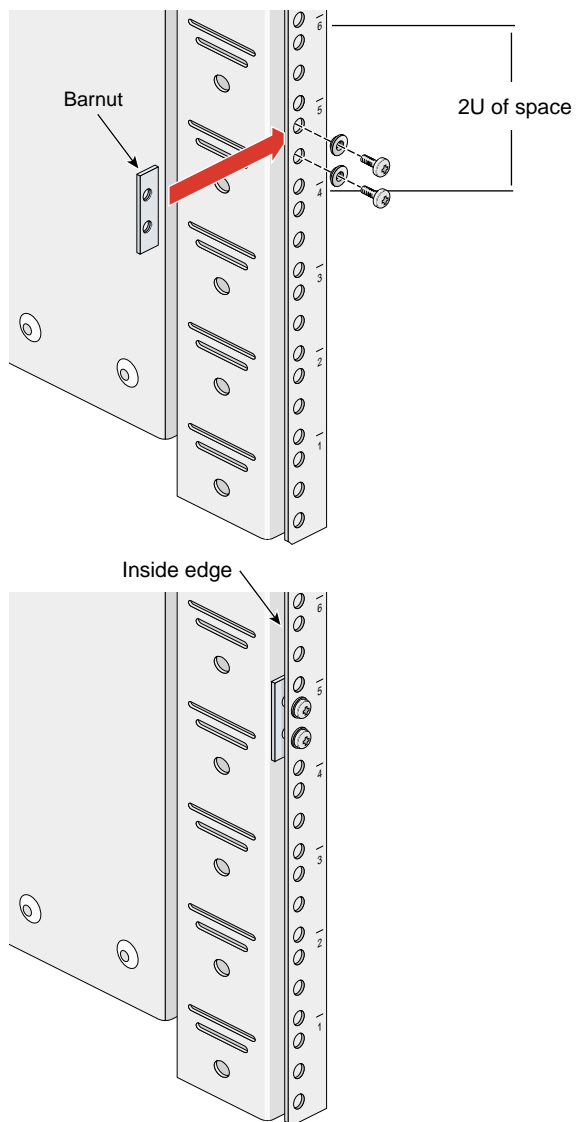

Figure C-10 Placing the Bar Nuts on the Rack Rails
2. Place one of the bar nuts inside the rack and align it with the second and third holes of the selected 2U of space (see Figure C-10).
Note: The holes in the bar nuts are not centered. The bar nuts need to be placed in such a way that the holes are closest to the inside edge of the rack rails. See Figure C-10.